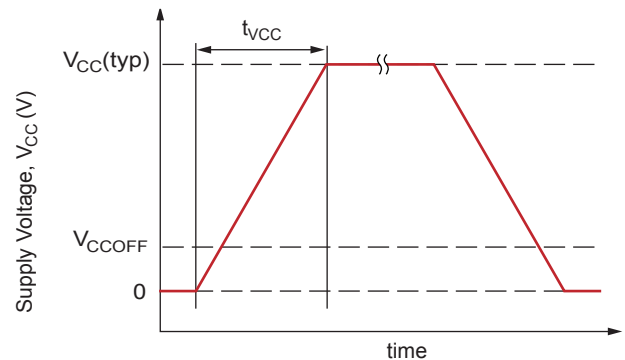

Figure 4: Definition of  $V_{CC}$  Ramp Time,  $t_{VCC}$
**$V_{CC}$  Ramp Time.** The time taken for  $V_{CC}$  to ramp from 0 V to  $V_{CC}(typ)$ , 5 V (see Figure 4).
**$V_{CC}$  Off Level.** For applications in which the  $V_{CC}$  pin of the A1308 or A1309 is being power-cycled (for example using a multiplexer to toggle the part on and off), the specification of  $V_{CC}$  Off Level,  $V_{CCOFF}$ , determines how high a  $V_{CC}$  off voltage can be tolerated while still ensuring proper operation and startup of the device (see Figure 4).